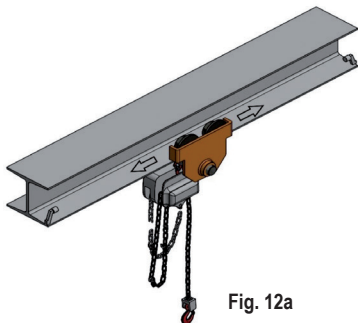

Fig. 12a
- push the carriage from a point where it can be gripped securely in the case of the thrust driven model (fig. 12A).